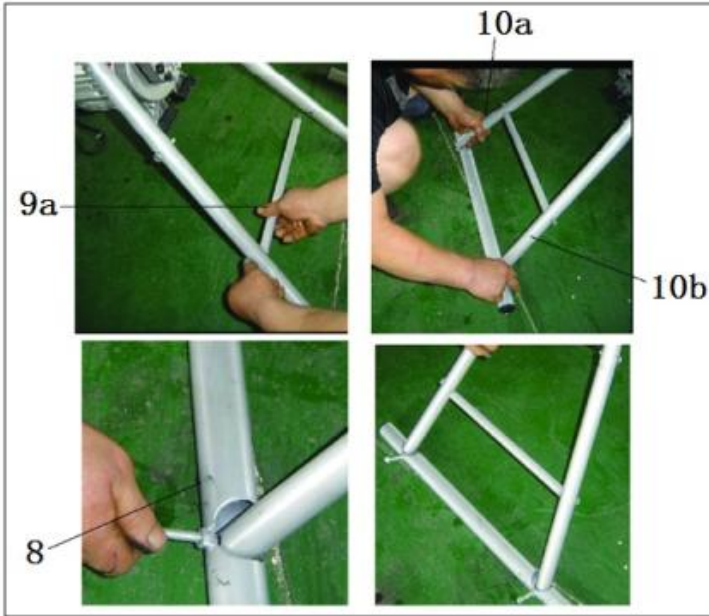

fig.3
- b) Connect horizontal shaft (9a) to front stand(10a&10b) with screws, then assemble horizontal leg(8) and fix it to front stand(10a&10b) by bolts (fig.3).